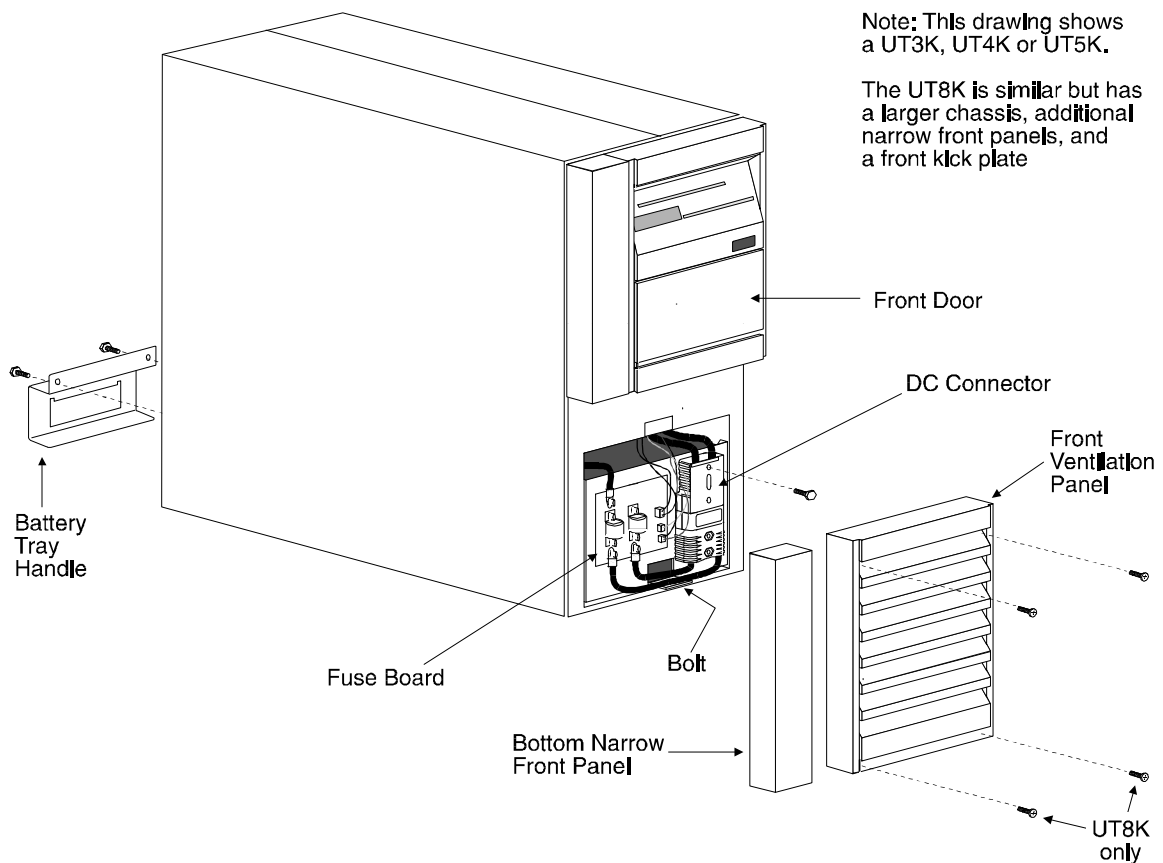

Figure 2: Single-Phase UNITY/I UPS
- 200-1. Remove the screws at the corners of the front ventilation panel and remove the panel from the unit. Also, remove the bottom narrow front panel(s). See Figure 2.
- 200-2. Remove the battery tray handle from the back of the unit (see Figure 2). Keep the two bolts handy to use in step 200-4.
- 200-3. At the front of the unit, remove the bolt that secures the battery tray to the floor of the chassis. To find the bolt, look under the two cables labeled “+” connected between the bottom DC connector and the fuse board (see “Bolt” in Figure 2).